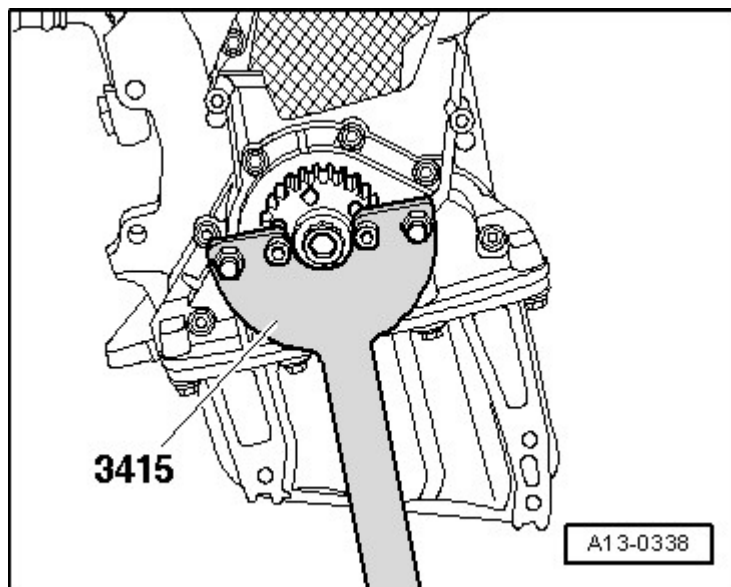

Fig. 6: Crankshaft Toothed Belt Sprocket, Removing And Installing
- Fastening counter support 3415, refer to **Fig. 6**